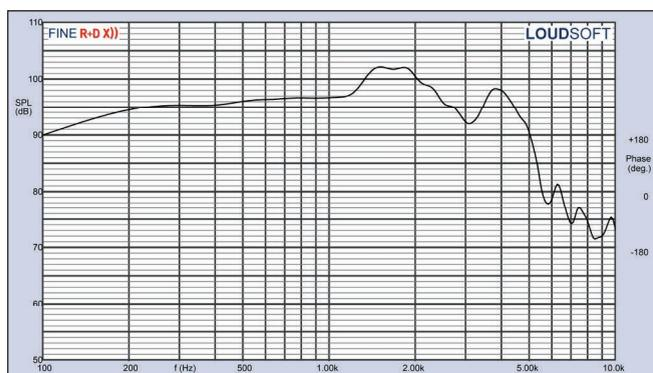
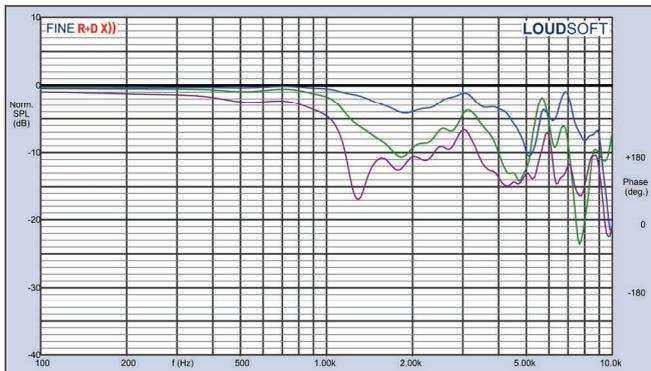
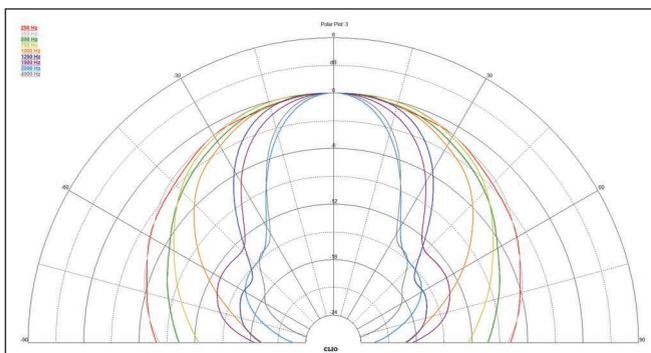
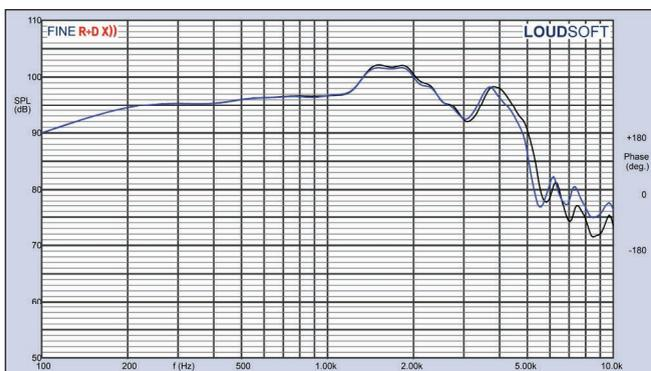

Figure 10: Scan-Speak Ellipticor 38WE/8582T00 woofer on-axis frequency response
Figure 12: Scan-Speak Ellipticor 38WE/8582T00 normalized on- and off-axis frequency response (0°=black; 15°=blue; 30°=green; 45°=purple)
Figure 13: Scan-Speak Ellipticor 38WE/8582T00 180° horizontal plane CLIO polar plot (in 10° increments)
Figure 14: Scan-Speak Ellipticor 38WE/8582T00 woofer two-sample SPL comparison
**Figure 10** gives the 38WE's on-axis response, indicating a smoothly rising response to about 1.2kHz followed by a broad 5dB peak center on about 1.7kHz where it begins its low-pass roll-off. **Figure 11** displays the on- and off-axis frequency response at 0°, 15°, 30°, and 45°. The -3dB frequency at 30° off-axis relative to the on-axis SPL is about 1kHz, suggesting a crossover between 1kHz should be possible, but I would more likely choose a cross point below 400Hz to maximize the system DI curve. The normalized version of Figure 11 is shown in **Figure 12**, with the CLIO polar plot (done in 10° increments) displayed in **Figure 13**. And finally, **Figure 14** gives the two-sample SPL comparisons for the 15" Ellipticor driver, showing a close match (less than 0.5dB variation) throughout the operating range.